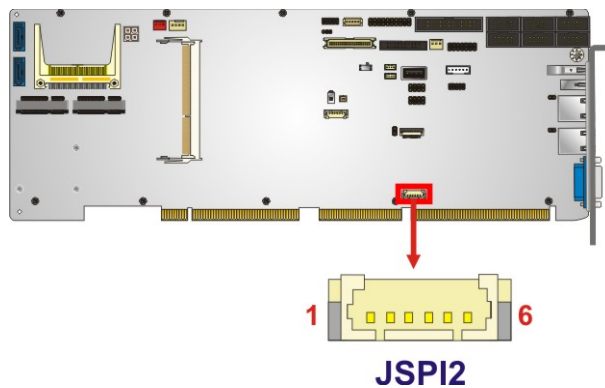

Figure 3-28: SPI EC Flash Connector Location
- CN Location:** See Figure 3-28